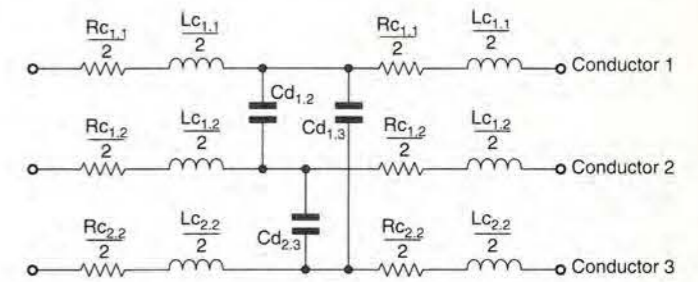

Fig. 7. General circuit model of three conductor lines.
This leads to the circuit model of Fig. 7. If the physical dimensions of the line are known, equations (8), (10), and (11) can be used to determine component values.
Physical data, as recorded in Fig. 10, was used to calculate component values for the circuit model of the set-up, using equations (8), (10) and (11). Then the general circuit model of Fig. 7 was converted to the specific circuit model of Fig. 11.